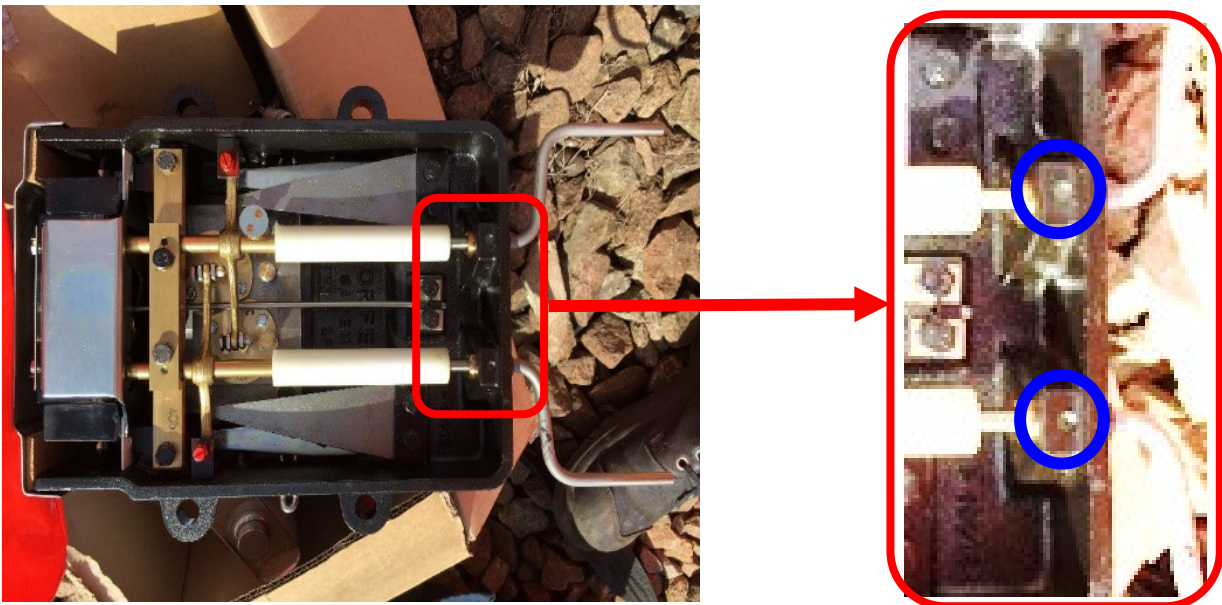

Figure 7 - The Location of Journal Holes Circled in Blue
1.13 Check visually that the actuating arm journal holes are free of manufacturers grease and apply a few drops of dashpot oil to each of the journal oil holes. See to Figure 7.